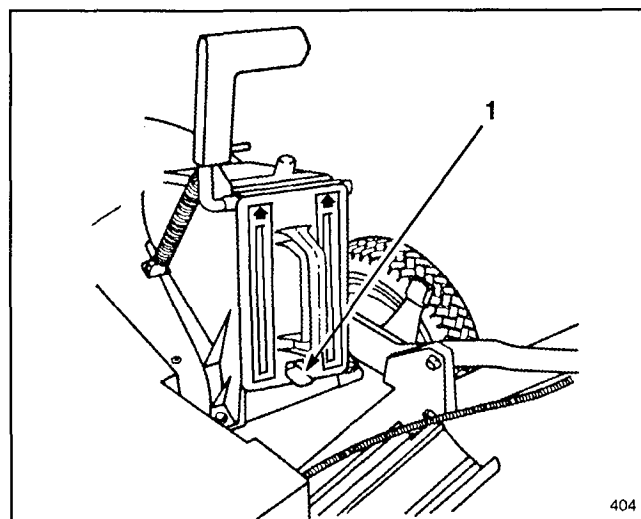

Figure 4
4. Push the plug all the way in until the spring clip on the bottom of the plug clicks into place, locking the plug securely into the discharge tunnel (Fig. 4). Release discharge door handle to lock top of plug.